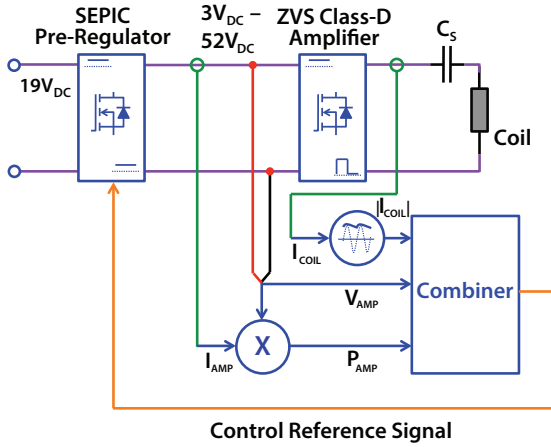
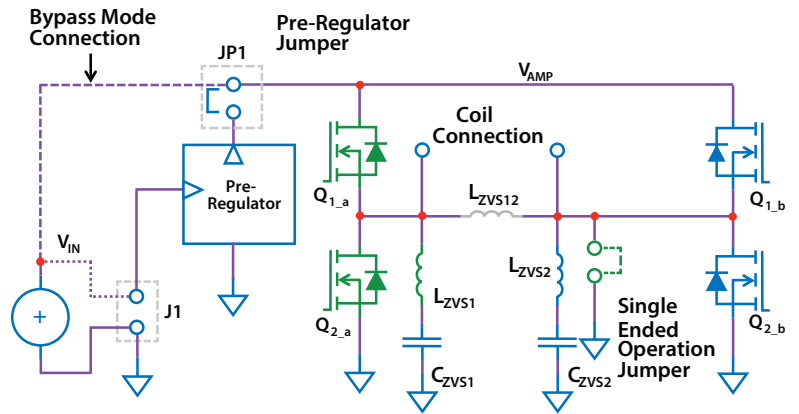

Figure 2: Block diagram of the EPC9509 wireless power amplifier.
Figure 3: Diagram of EPC9509 amplifier circuit.
Figure 2 shows the system block diagram of the EPC9509 ZVS class-D amplifier with pre-regulator and Figure 3 shows the details of the ZVS class-D amplifier section. The pre-regulator is used to control the ZVS class-D wireless power amplifier based on three feedback parameters 1) the magnitude of the coil current indicated by the green LED, 2) the DC power drawn by the amplifier indicated by
2. With power **off**, connect the **main** input power supply bus to J1 as shown in Figure 3. Note the polarity of the supply connector.
2. With power **off**, connect the **main** input power supply bus +V_{IN} to the bottom pin of JP1 and the ground to the ground connection of J1 as shown in Figure 3.